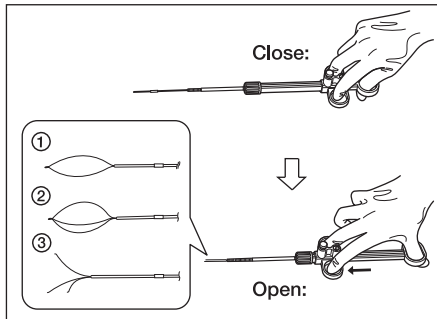

Figure 3.1
1. Move the slider to the front and rear and confirm that the foreign object retrieval section of the industrial retrieval tool can be opened smoothly and securely to the desired shape and closed (see Figure 3.1).